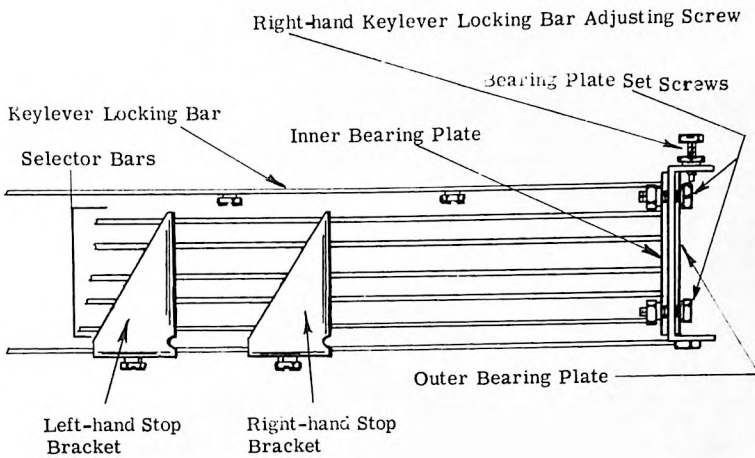

Figure 1
1.1 Selector Bar Assembly Position (Figure 1)
1.2 Selector Bar Stop Bracket (Figure 1)
1.3 Keylever Locking Bar (Figure 1)